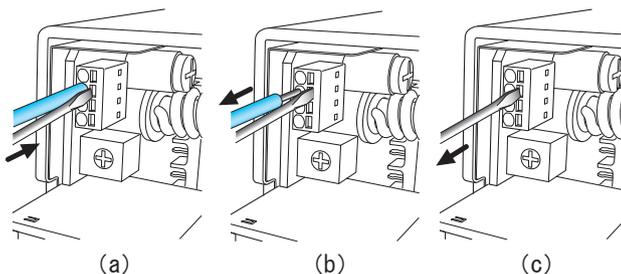

Fig.6.10 Releasing method of Ferrule terminal, Solid wire and Stranded wire
- Step1: Insert a flat-blade screwdriver into the release hole. (Refer to the fig.6.10(a).)
- Step2: Remove the wire with the flat-blade screwdriver inserted in the release hole. (Refer to the fig.6.10(b).)
- Step3: Remove the flat-blade screwdriver from the release hole. (Refer to the fig.6.10(c).)